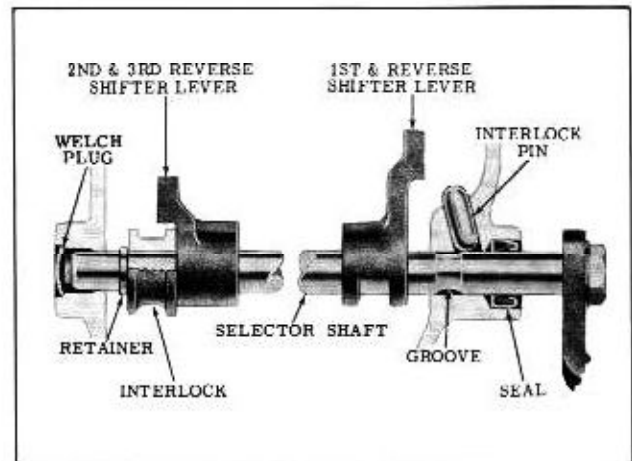

Fig. 11-30 Selector Shaft and Related Parts
7. Install the selector shaft and shifter levers as follows: (Fig. 11-30)
8. Install the selector shaft interlock pin in the case. Move selector shaft until the interlock pin engages groove in selector shaft. (Fig. 11-30)